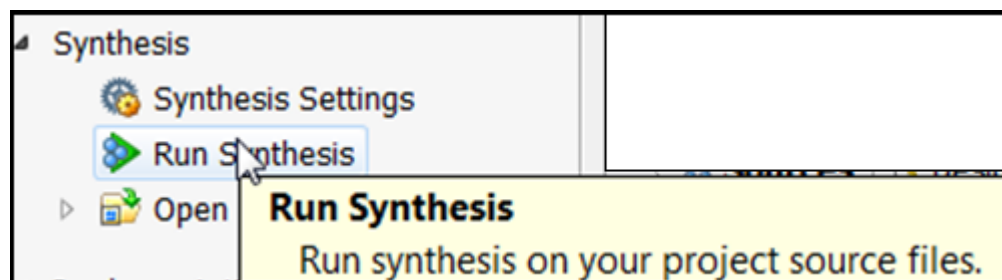

Figure 28: Run Synthesis Option
1. After generating the IP Integrator design, from the **Flow Navigator** click **Run Synthesis** (Figure 28).